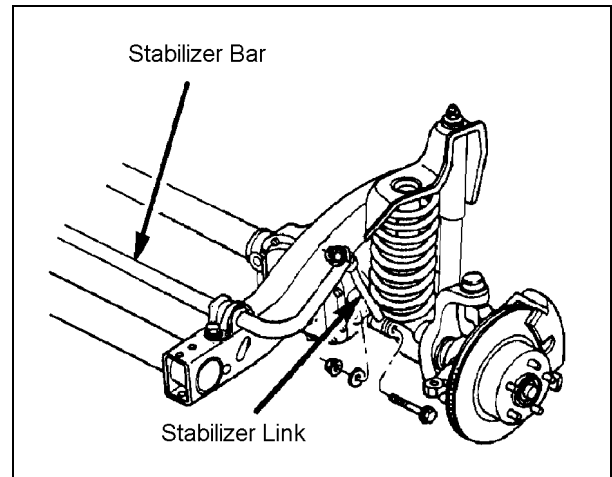

Figure 2
5. Position a hydraulic jack under the front axle for support. Remove the stabilizer link lower nut and bolt from both sides of the front axle. See Figure 2